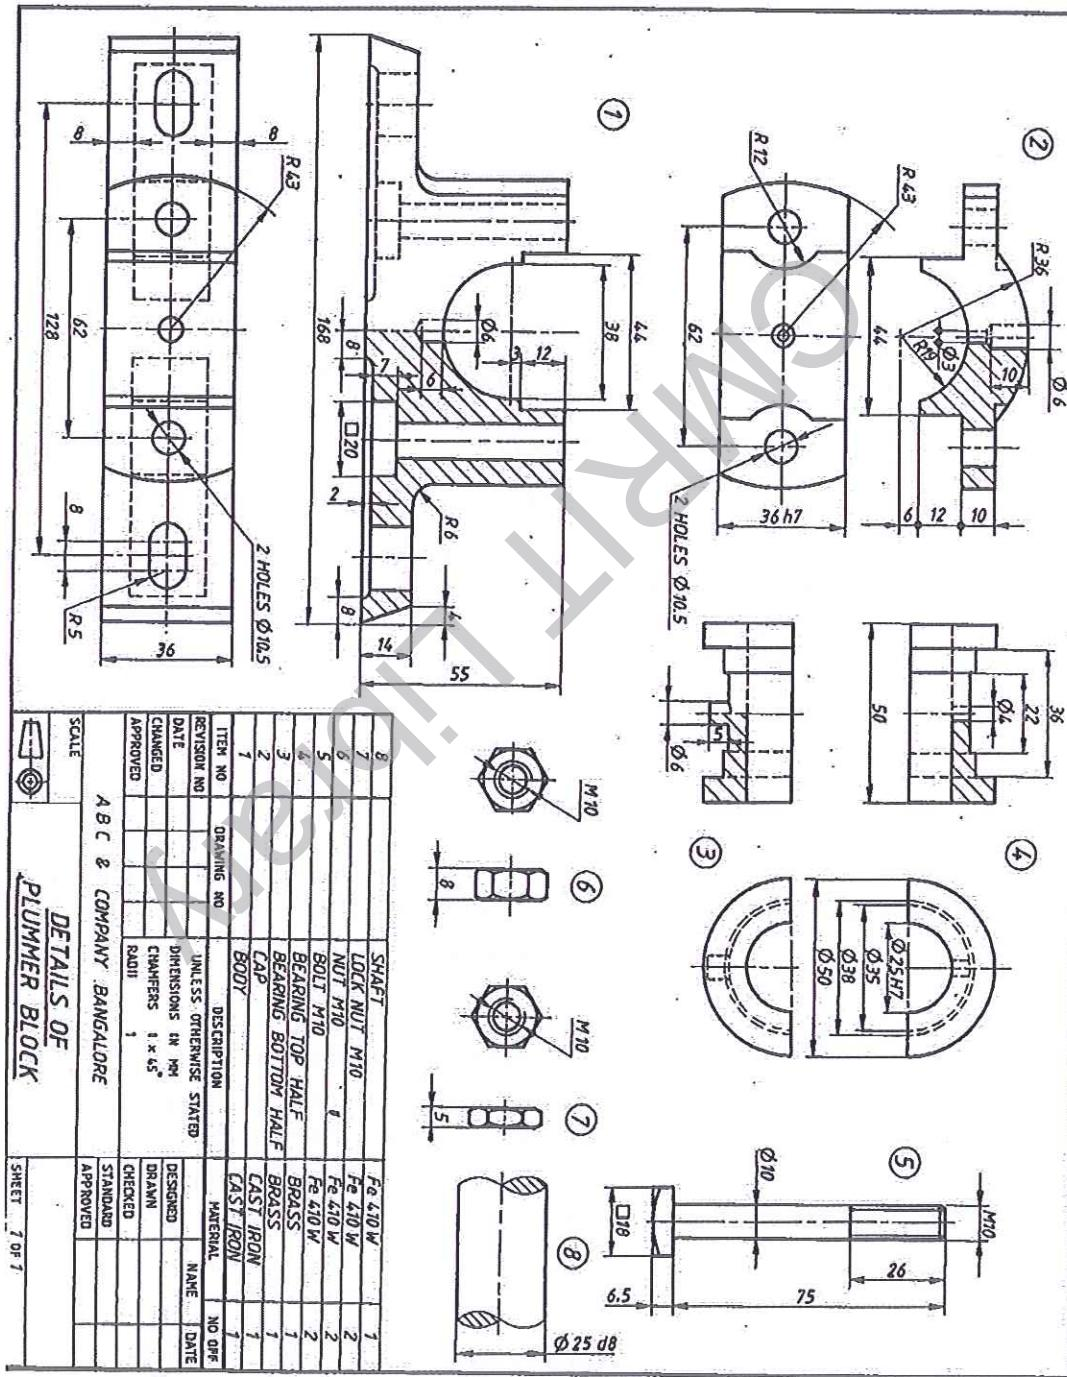

Figure 1 “PLUMMER BLOCK”
Q.No.5 Details of a “PLUMMER BLOCK” are shown in Figure 1. Assemble the parts and draw the following views of the assembly: